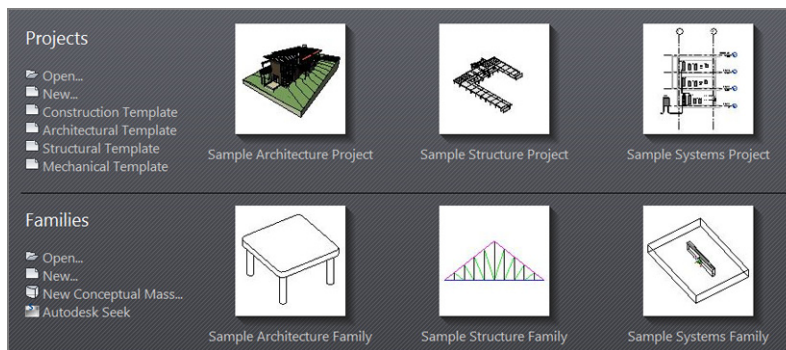

FIGURE 1.3: The Recent Files window lists any recent projects or families on which you've worked.
2. After you start Revit, you'll see the Recent Files window, as shown in Figure 1.3. The top row lists any projects on which you've been working; the bottom row lists any families with which you've been working. The column to the right allows you to view some tutorial videos. If you have time, I recommend investigating this feature.